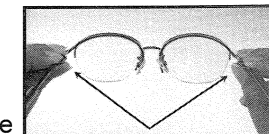

Figure 3
2. Holding each temple piece at the hinge (Fig. 3), put the frames on, guide the nasal prongs into each nostril and ensure the connecting tube drapes correctly from each temple piece. The oxygen tubing may be worn behind the neck and down the back or around the ears bringing the slider under the chin, like a cowboy hat.